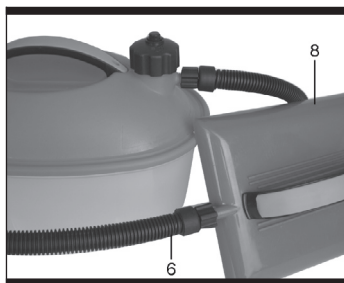

Fig 1
1. Attaching the steam plate hose (Fig 1)